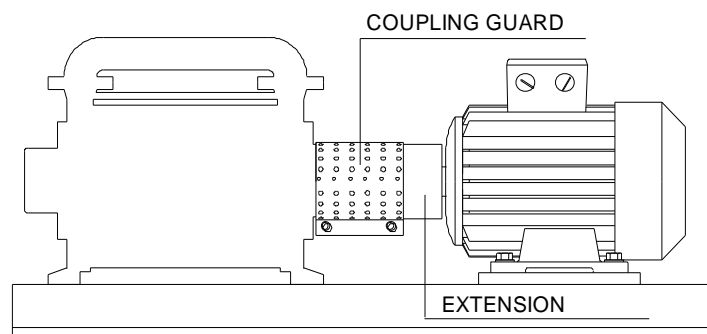

Fig 22 - CHECKING ALIGNMENT ON BASE MOUNTED PUMP DESIGN
- 7 - Remove the coupling guard and its extension (if there is one) attached to the pump, by removing the two locking screws (see fig. 22 and 23).